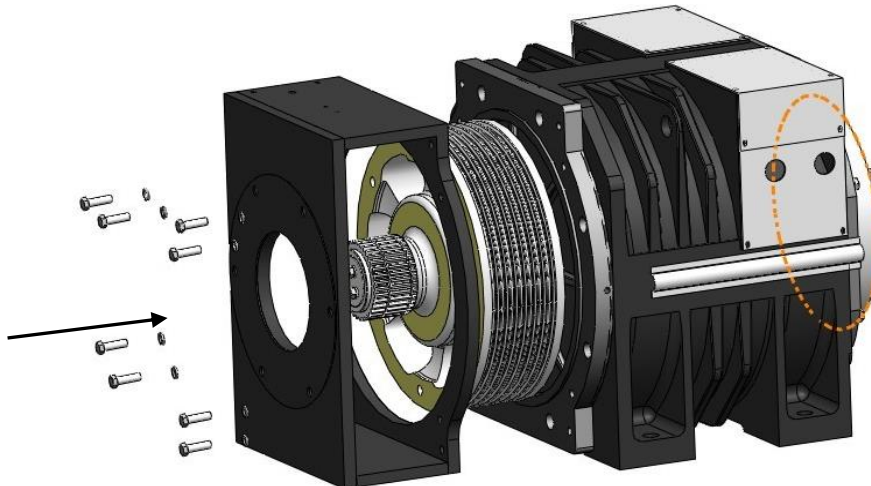

Figure 63: Brake frame installation
5. Hoist the brake frame of brake and install it, tighten eight bolts M12x40 (TMGL2/TMGL2A hexagon socket screw M12) with lock washer. See Figure 63.